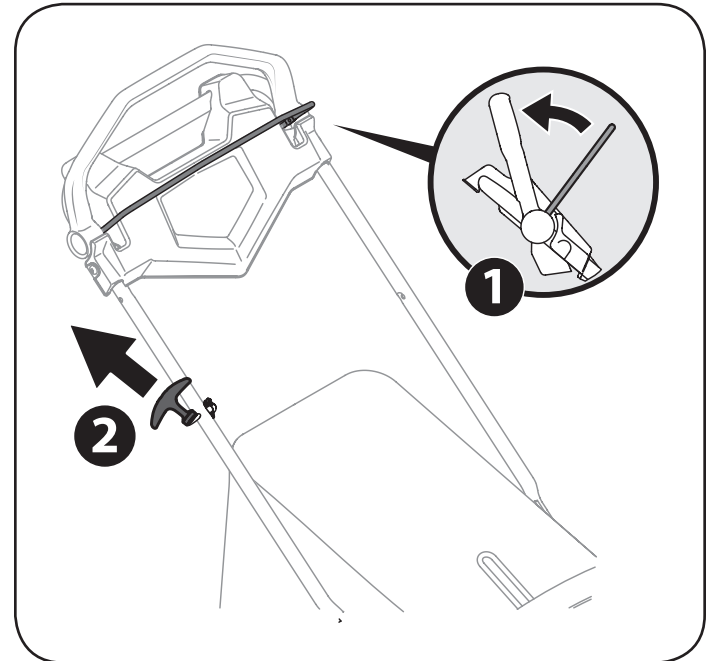

Figure 14
2. While holding the blade and drive controls together firmly, grasp the recoil starter handle and pull rope out with a rapid, continuous, full arm stroke. See Figure 14. Keeping a firm grip on the starter handle, let the rope rewind slowly. Repeat until engine cranks. Let the rope rewind each time slowly.